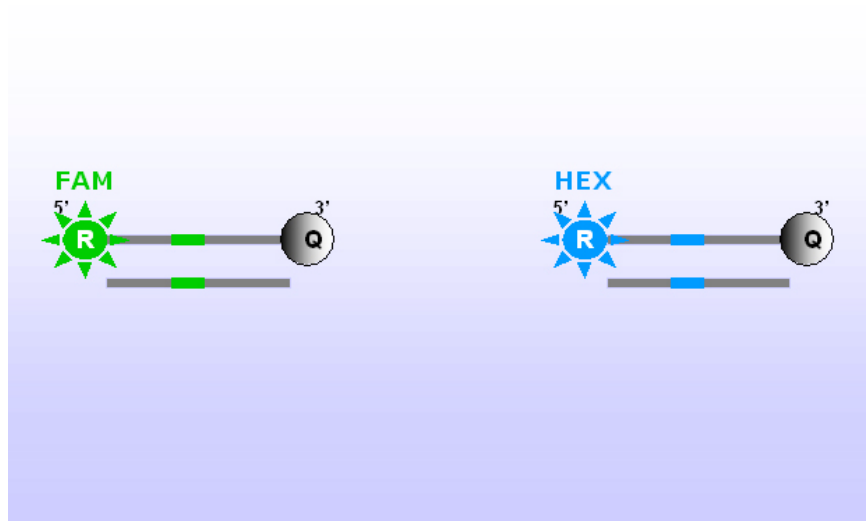

Fig. 1
The kit takes advantage of an Oligo Mix containing specific probes *for Legionella ssp* linked at its 5'-end to a FAM molecule (6-carboxyfluorescein). In addition to this, the Oligo Mix contains internal control (IC) specific probes, linked at its 5'-end to a HEX molecule (hexa-chloro-fluoresceine). The two probes have at their 3'-ends a quencher called BHQ-1 (fig.1). If excited, the integral probe does not emit fluorescence, because the closeness of the quencher to the reporter prevents this last from emitting fluorescence (quenching effect).